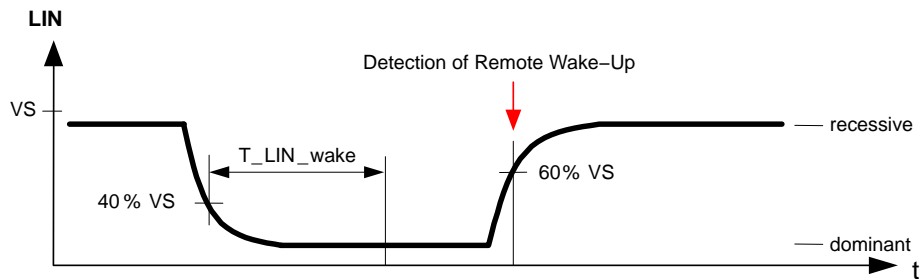

Figure 8. LIN Wakeup
- In the **Standby and Sleep mode** of the device, the LIN transceiver is in its wakeup detection state. Logical level on TxDL is ignored and pin RxDL is kept high until it's used as an interrupt request signal. A LIN bus wakeup corresponds to a dominant symbol at least T_{LIN_wake} long (typ. 90 μ s) followed by a rising edge (i.e. transition to recessive) – see Figure 8. In this way, false wakeups due to permanent LIN dominant failures are avoided. Only a pull-up current of typ. 15 μ A is connected between VS and LIN instead of the 30 k Ω pull-up path. The LIN wakeup detection is by default active in the Standby and Sleep modes and can be disabled via SPI control registers.